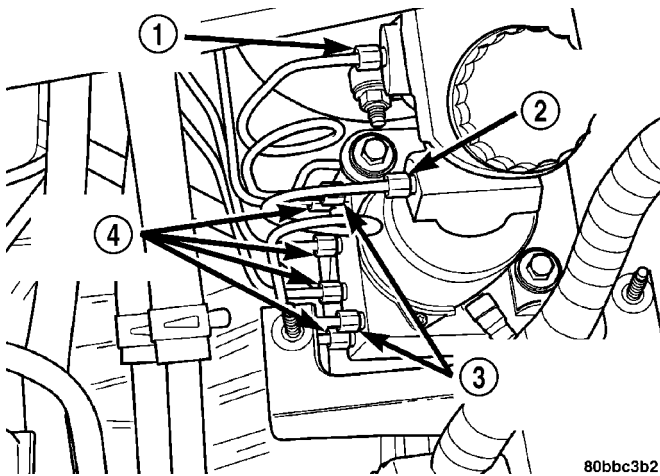

Fig. 18 Brake Tube Locations
(10) Disconnect and remove the primary and secondary brake tubes coming from the master cylinder at the ICU hydraulic control unit (HCU) (Fig. 18).
(11) Disconnect the brake tubes going to each individual brake at the HCU (Fig. 18).
(13) Remove the ICU from the vehicle.
(14) If the CAB and HCU must be separated, (Refer to 5 - BRAKES/HYDRAULIC/MECHANICAL/ICU (INTEGRATED CONTROL UNIT) - DISASSEMBLY).